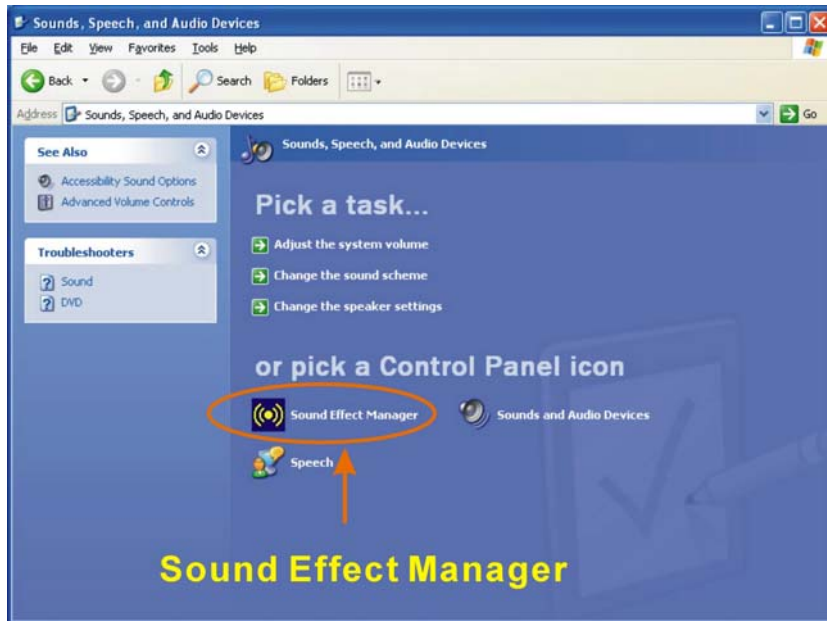

Figure D-3: Sound Effect Manager Icon [Control Panel]
- The **Sound Effect Manager** icon in the Control Panel (**Figure D-3**).